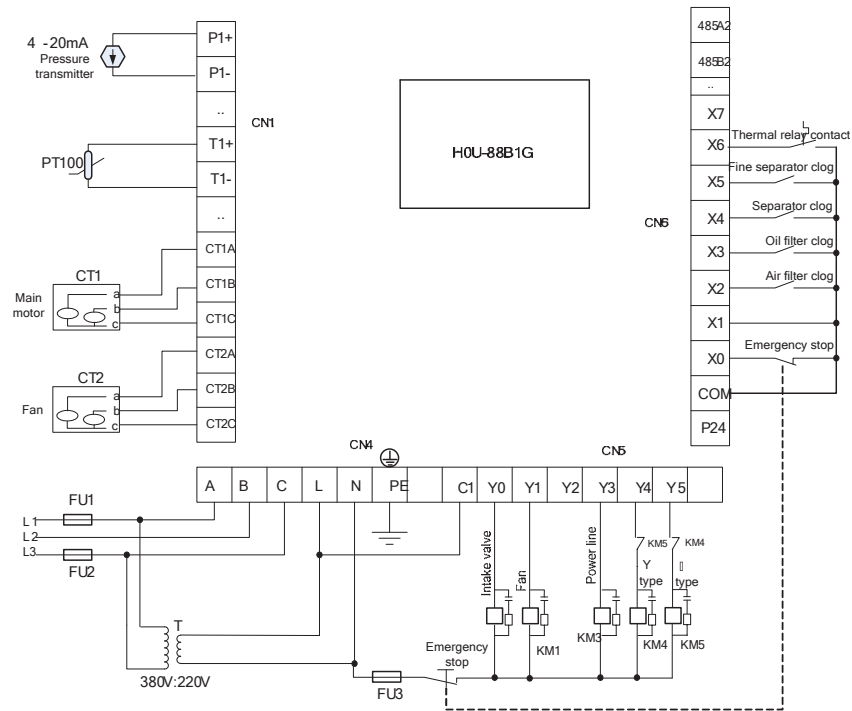

Figure 3-4 Controlling signal wiring diagram: Both main motor and fan are driven by power-line
- The 380V/220V transformer in Figure 3-4 is isolation type controlling transformer. You can select the model with capacity of approximate 50VA.